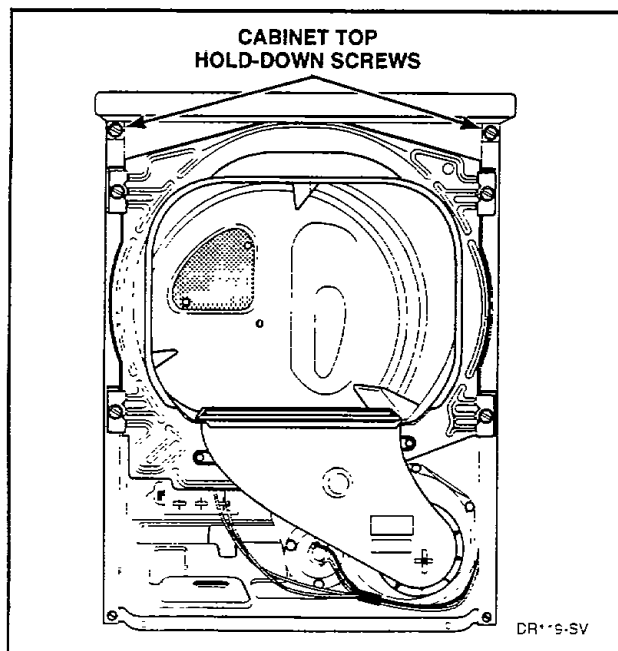

Figure 13
- m. Remove two cabinet top hold-down screws, *Figure 13*.
- Remove two cabinet top hold-down screws, *Figure 13*.
- n. Remove two cabinet top hold-down screws, *Figure 13*.